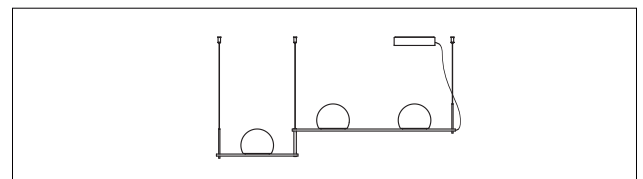

Figure 1A
- To be mounted facing up (figure 1A) go directly to step 6 (figure 6)